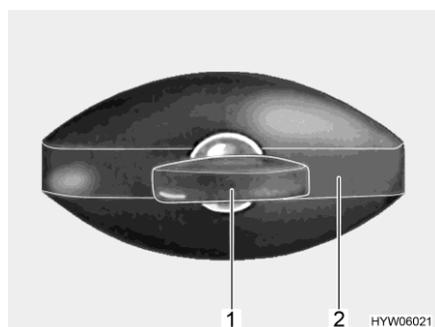

Fig. 78 Flap lock (elliptical-shaped, closed)
- Insert key into locking cylinder (Fig. 78,1) and turn a quarter turn in an anticlockwise direction. The lock handle (Fig. 78,2) snaps out.